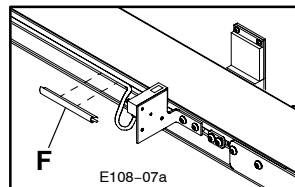

Figure 7: T-slot Cover Strip Mounting Details
- c. To contain a long run of wiring cable in the conveyor T-slot channel, use several short lengths of T-slot Cover Strips (F) (Figure 7). Or, to completely contain a long run of cable, purchase T-slot Cover Strip (645656P) at length required.